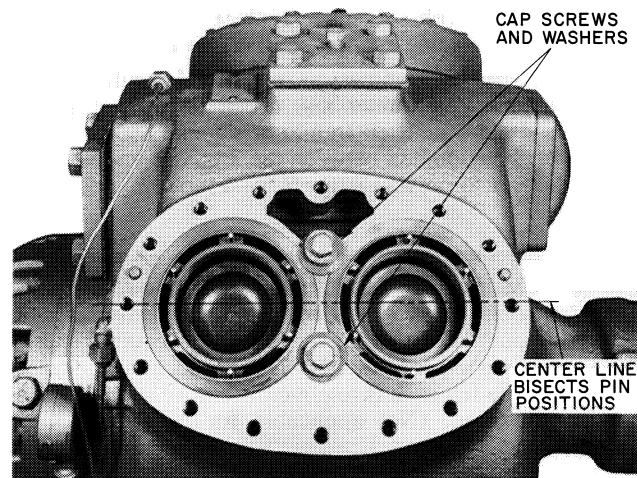

Fig. 34 — Position of Cylinder Sleeves
6. Rotate sleeve so that any 2 valve lifter-pin holes lie equal distances from longitudinal axis of compressor (Fig. 34). In this position, lifter pins line up with suction valve springs.